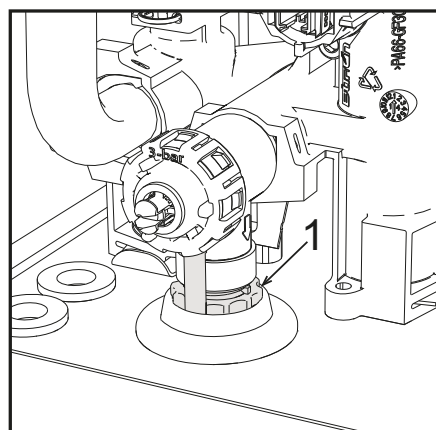

fig. 9 - Safety valve with drain faucet
To drain the system, turn the ring (ref. 1 - fig. 9) counter-clockwise to open the faucet. Do not use any tools; use hands only.